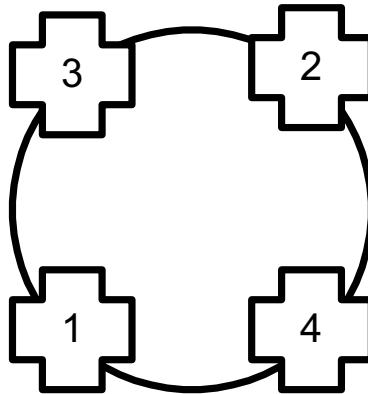

Figure 2. Filter Retaining Knob Tightening Sequence.
13. Install access cover (**Figure 1, item 5**), and fasten access cover with four thumbscrews (**Figure 1, item 4**). Ensure the access cover is tightened down evenly in the sequence illustrated in Figure 2.